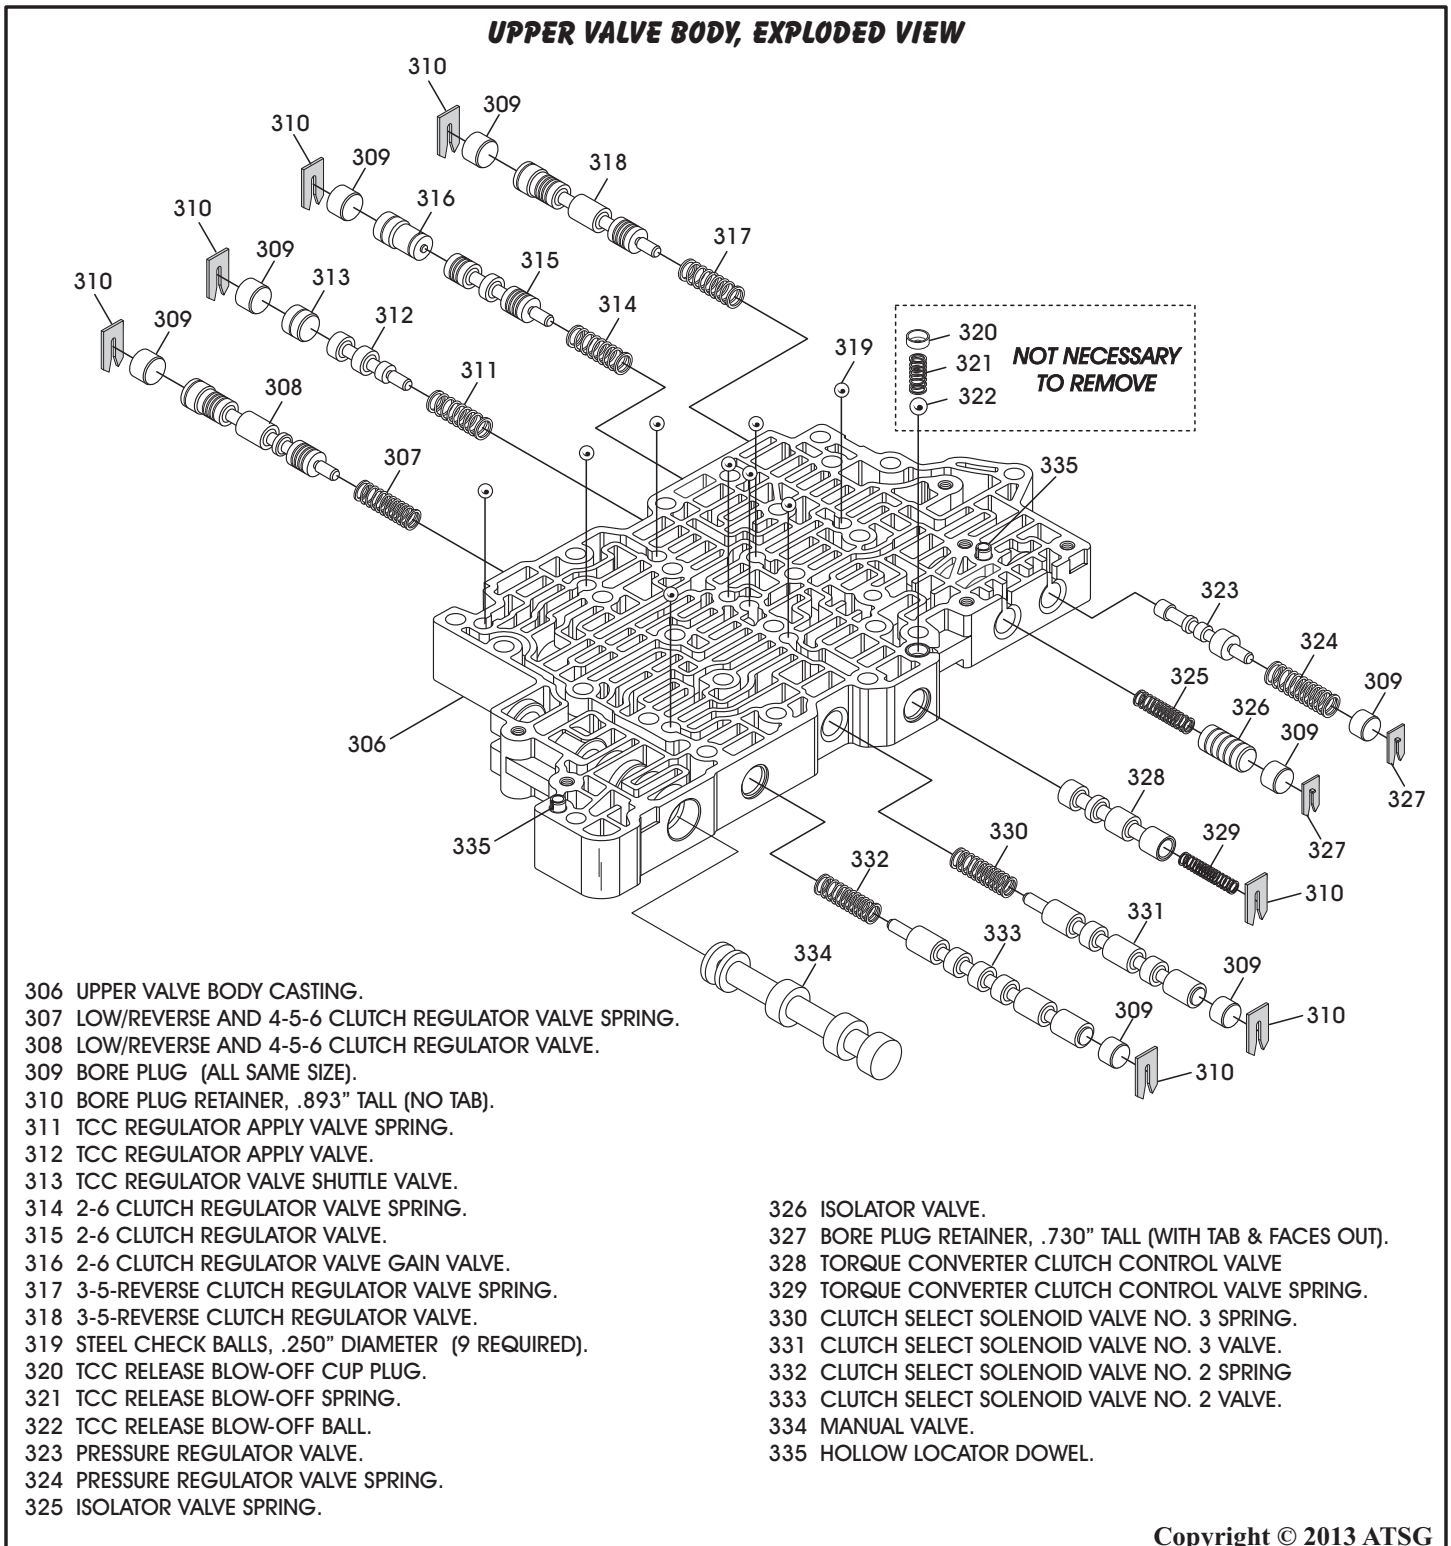

Figure 174
9. Disassemble upper valve body and place valves, springs, bore plugs and retainers on appropriate trays exactly as they are removed, as shown in Figure 174.
13. Assemble the upper valve body parts **exactly**, as shown in Figure 174, and lube with the proper fluid as they are installed.